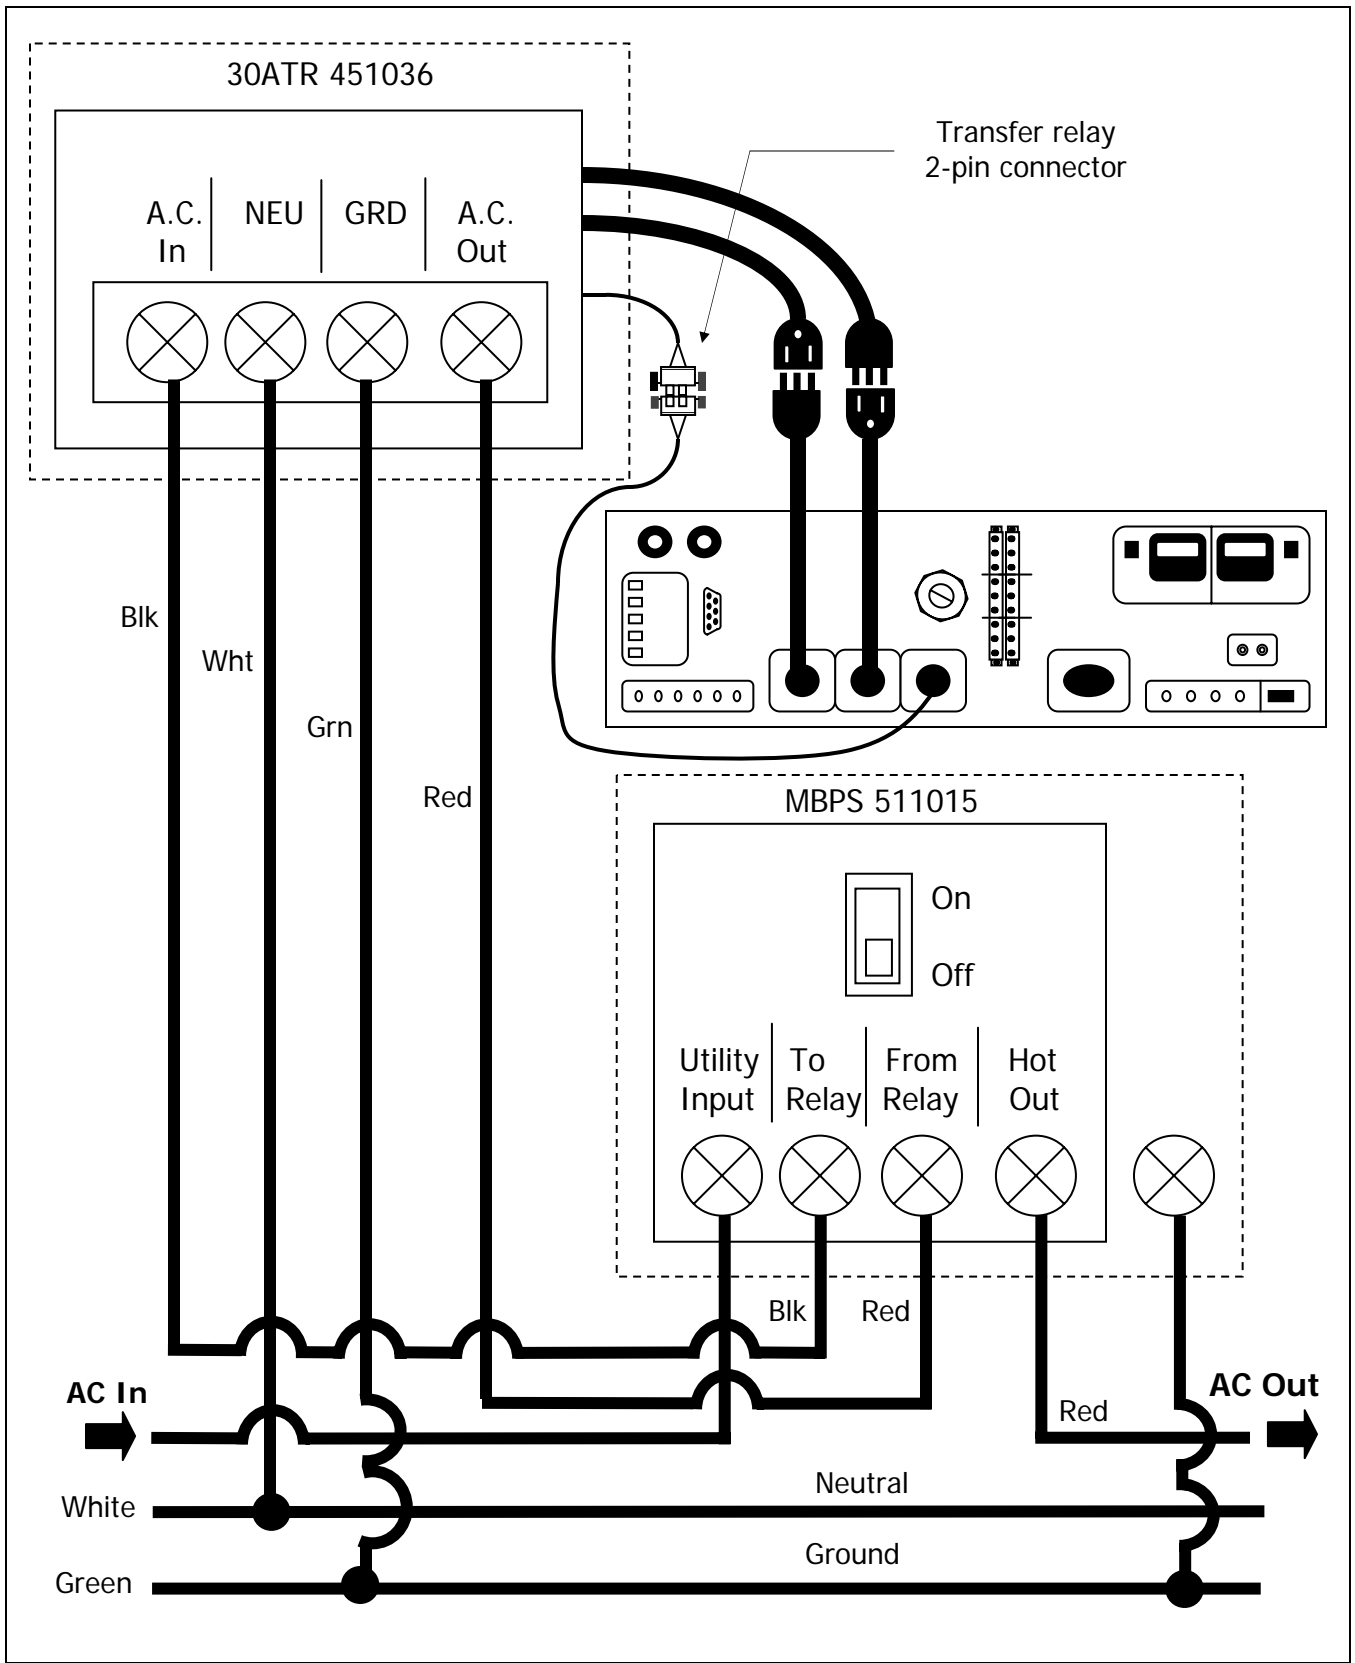

FIGURE 9: AC wiring configuration MBPS and 30ATR
- 3) **30A AC Transfer Relay connector plug:** Plug the male two-pin connector 30A automatic transfer relay drive wire (red and black) coming out from the BBS module into the female two-pin connector wire (red and black) coming out from the 30A Automatic Transfer Relay. See Figures 9 and 10 on pages 19 and 21.